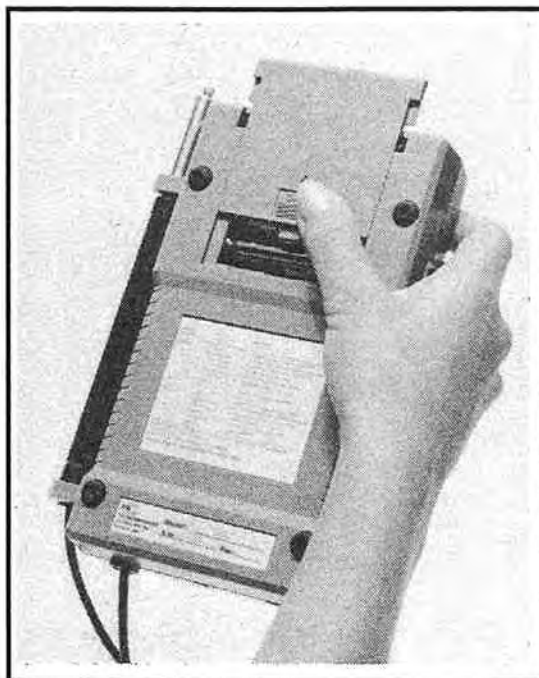

Figure 4. Removing the battery access cover
- 1 Slide out the battery access cover as shown in figure 4; where the cover is marked "OPEN" press down and forward to disengage the retaining clip.